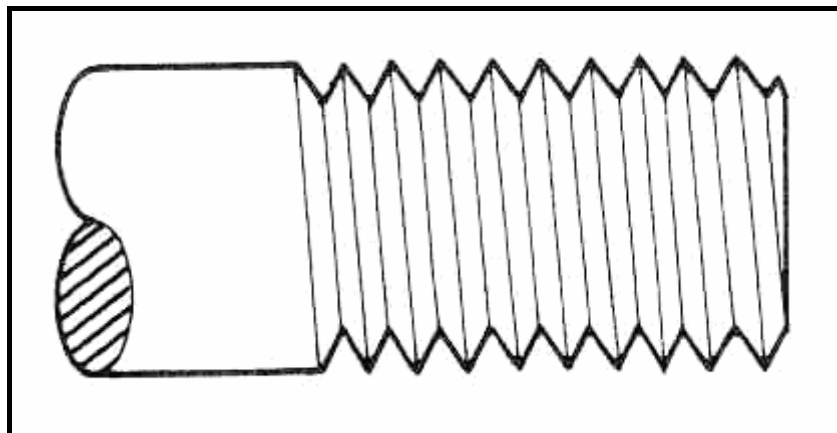

FIGURE 1.7
- 1.17 Identify the type of thread shown in FIGURE 1.7